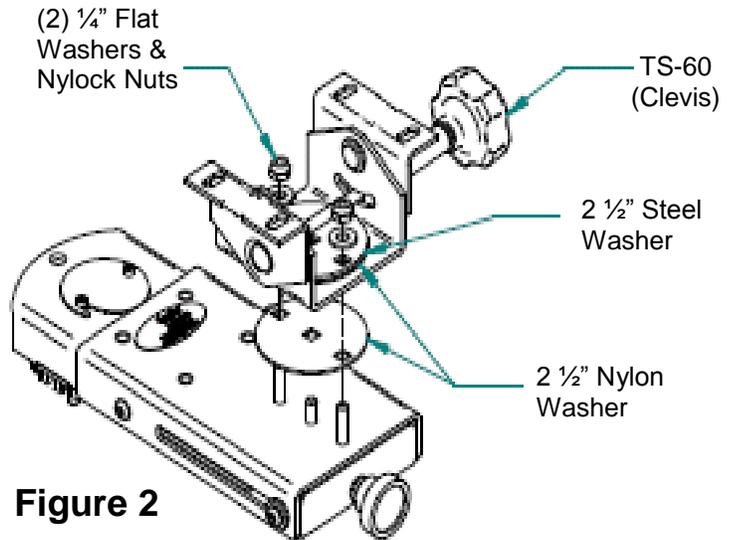

Figure 2
- A Clevis can be added to the ARM-TELS locking slide arm. To attach remove the 2 1/2" Steel Washer and (2) 2 1/2" Nylon Washer from the clevis. Place one of the 2 1/2" Nylon Washer on the three pressed in 1/4" studs protruding from the slide plate. Next place the clevis assembly over the studs protruding from the slide plate. Third place the remaining 2 1/2" Nylon Washer and 2 1/2" Steel Washer over the protruding studs on the slide plate. Attach the clevis in place with (2) 1/4" flat washers and nylon nuts that were removed when you first removed the large washers from the original clevis configuration. Tighten the nylon nuts until the desired friction is obtained for the rotation of the clevis. (See Figure 2)